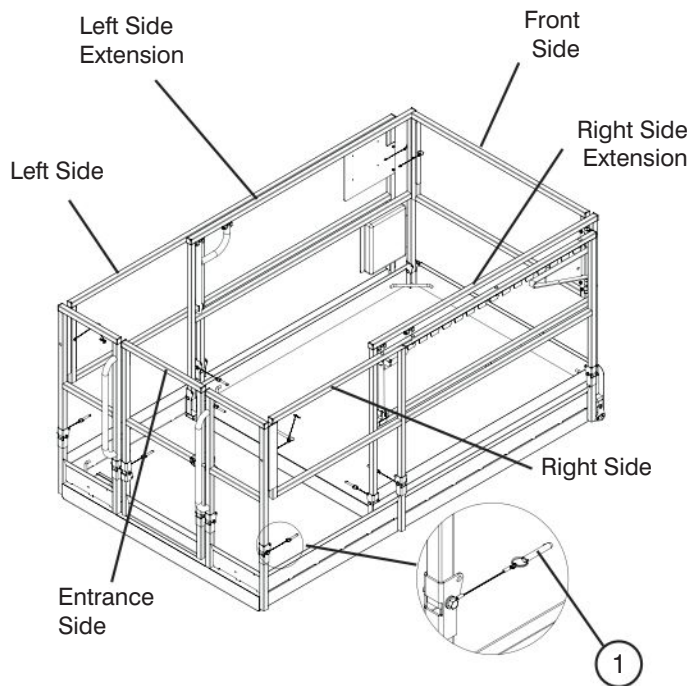

Figure 3-9a. Folding Guardrail System
9. Fold down guardrails in the following order: front, right extension, left extension, right-side, left-side and entrance (refer to Figure 3-9a).